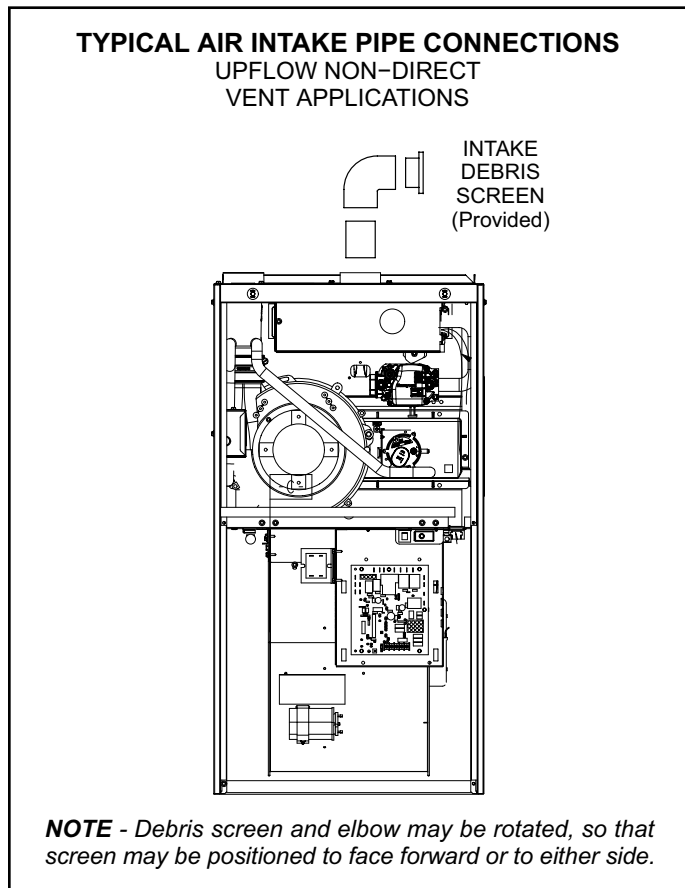

Figure 20.
1. Use field-provided materials and the factory-provided air intake screen to route the intake piping as shown in Figure 20. Maintain a minimum clearance of 3" (76mm) around the air intake opening. The air intake opening (with the protective screen) should always be directed forward, or sideways.